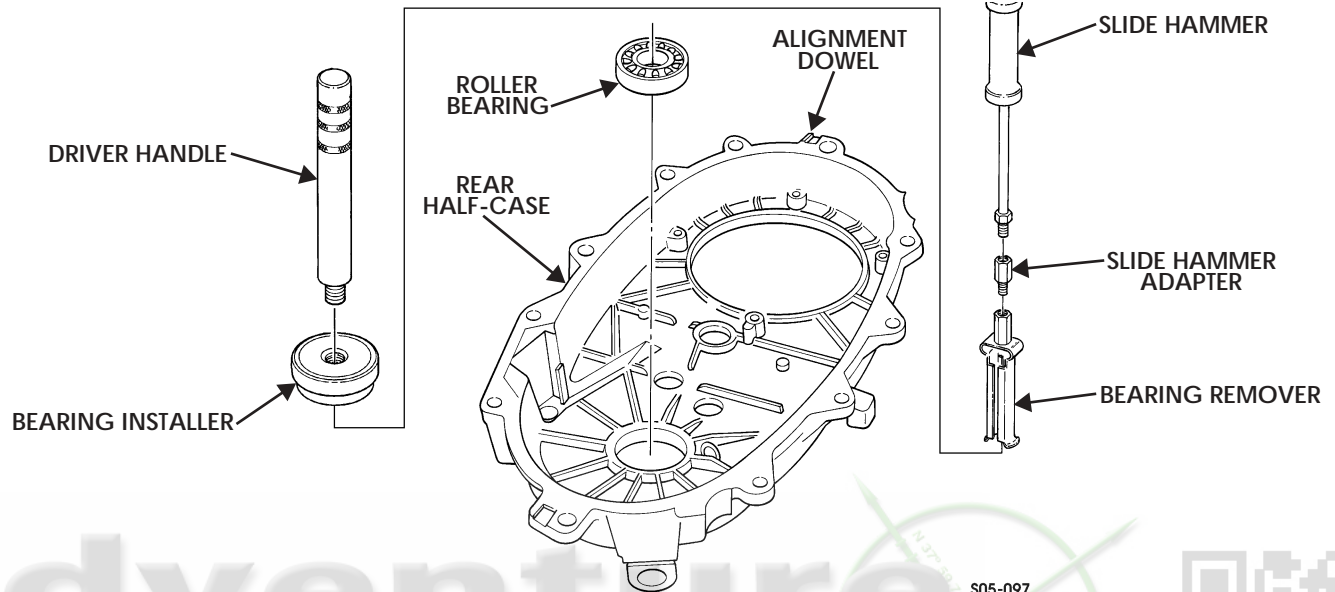

Figure 5-150: Front Bearing
1. Inspect rear half-case for cracked or damaged casting, missing or damaged alignment dowels, and worn or damaged roller bearing (Figure 5-150).